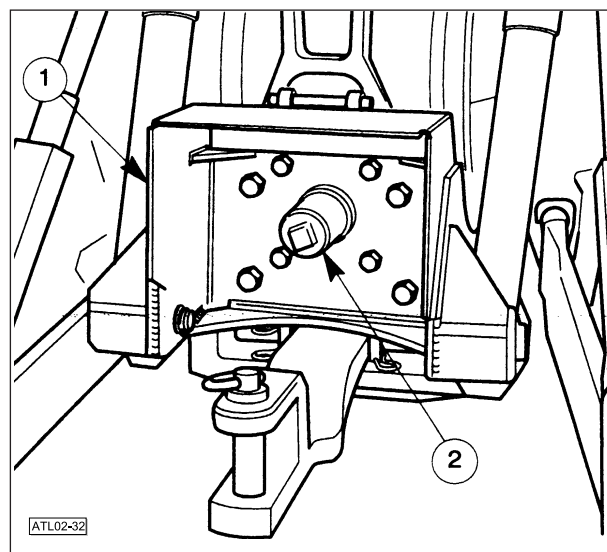

Fig.2-32
- Ensure that the PTO shield (1) is in place and that the cap (2) is fitted when the PTO driveline is not in use (Fig. 2-32).